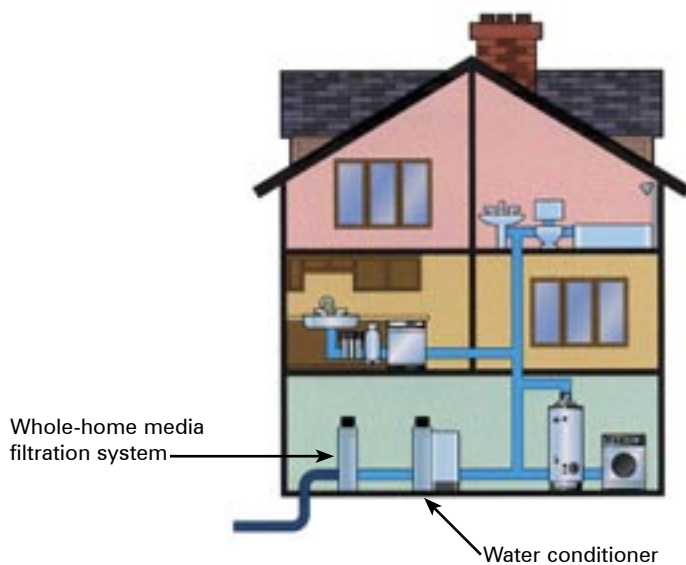

Figure 5: Water-using appliances and fixtures in reference to water-conditioner system installation site.
- Access to plumbing; it is recommended that when possible both hot and cold water be treated with the exception of outside taps. Kitchen cold is optional. Additional equipment may work better with treated water. Consult your dealer for details and the best option for the application. (See Figure 5.)